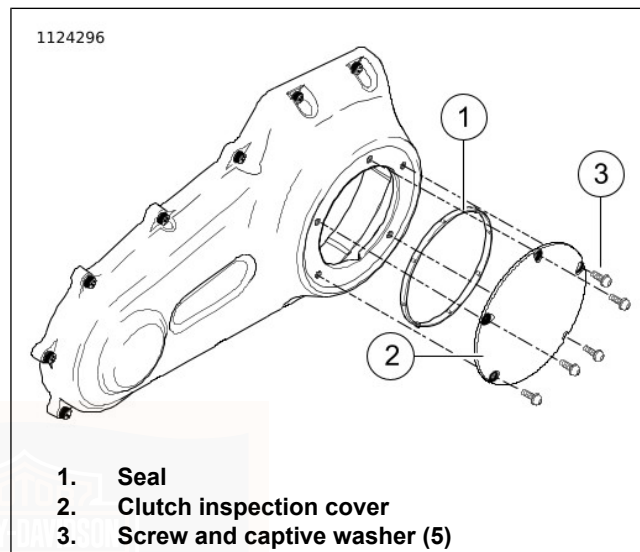
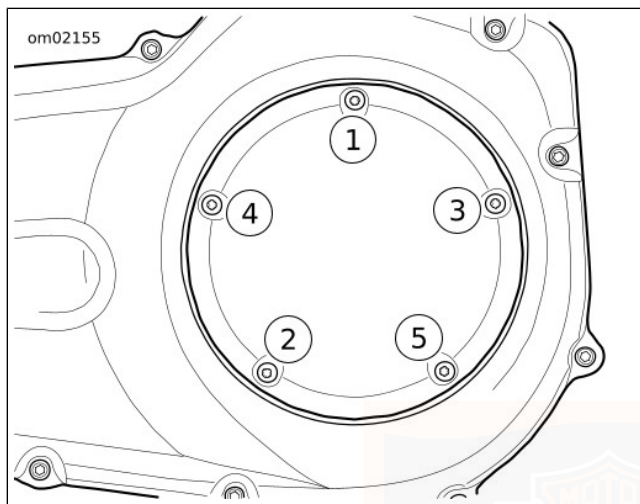

Figure 55. Clutch Cover (Typical)
Figure 56. Clutch Cover Tightening Sequence
6. See Figure 55. Remove screws (3) and clutch inspection cover (2).
7. Remove seal (1). Wipe oil from groove in chaincase cover and mounting surface.
- b. See Figure 55. Position **new** seal (1) in groove in clutch inspection cover (2). Press each of the nubs on seal into the groove.
- c. Secure clutch inspection cover (2) with screws with captive washers (3).
- d. See Figure 56. Tighten in sequence shown to 9.5–12.2 N·m (84–108 **in-lbs**).